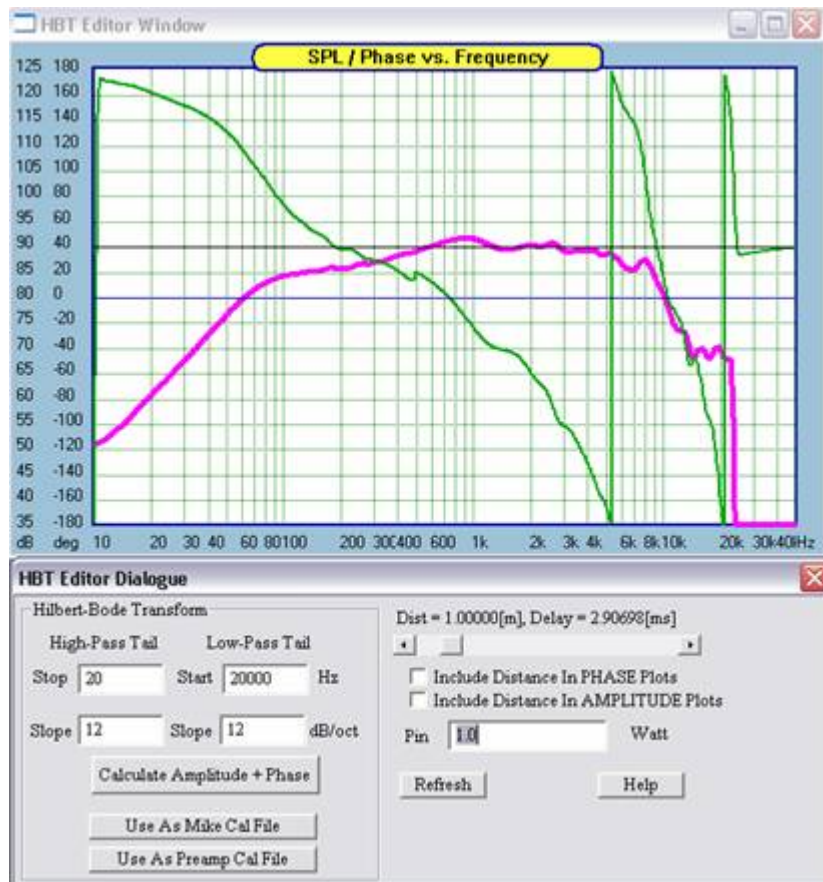

Figure 49 Master Buffer transferred to Diver.
- From the *Driver Files* menu open the *File Editor*. The display should appear as in Figure 49.